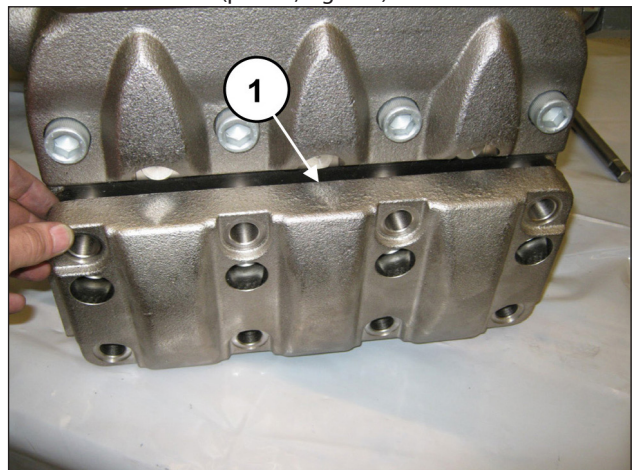
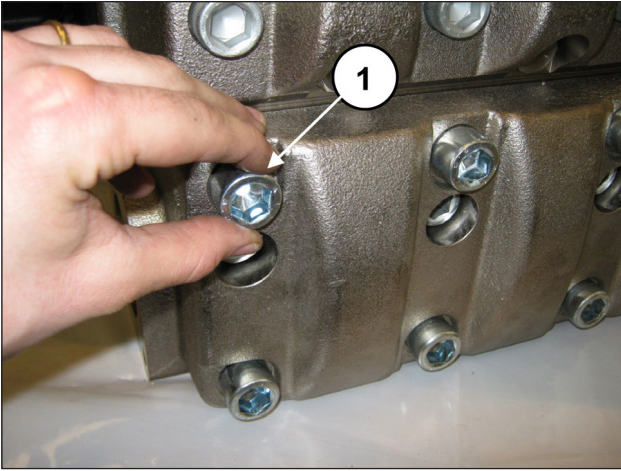

Fig. 152
Fig. 153
After having completed assembly of the suction valve units, apply the suction valve cover (pos. ①, Fig. 152) and screw in the 8 M16x45 screws (pos. ①, Fig. 153).